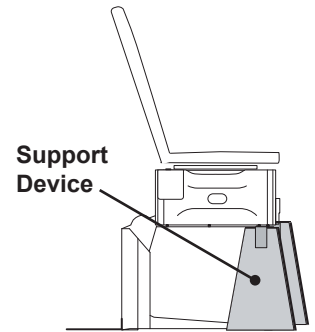

Figure 43.
1. Manually raise table and prop in raised position using a support device intended for this purpose. (See Figure 43). *NOTE: Your support device may vary from example.*